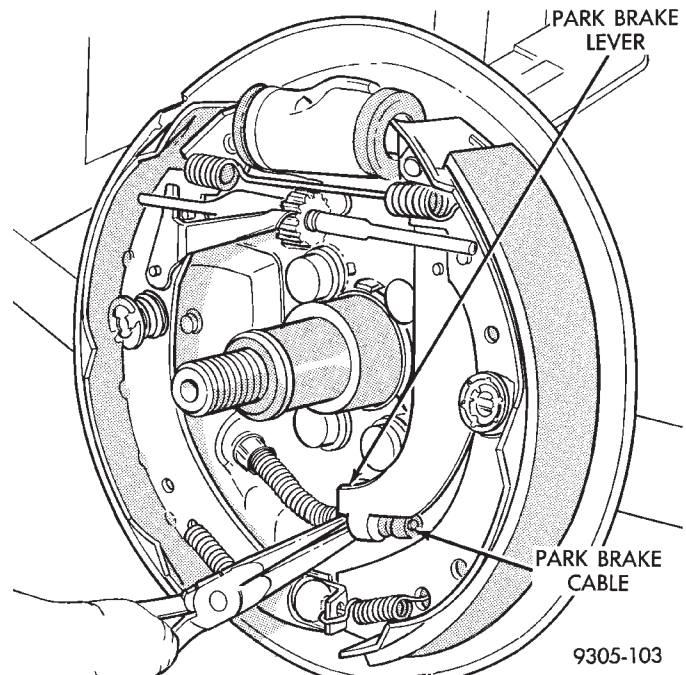

Fig. 120 Park Brake Cable Attachment To Park Brake Lever
(5) Disconnect park brake cable from park brake lever on rear brake assembly (Fig. 120).
(1) Install parking brake cable into rear brake support plate. Be sure the park brake retainers are expanded around mounting hole in brake support plate. Connect parking brake cable to park brake lever on trailing brake shoe (Fig. 120).
(2) Install parking brake cable into cable mounting hole in floor pan of vehicle. Be sure that cable retainers are expanded around mounting hole in floor pan.